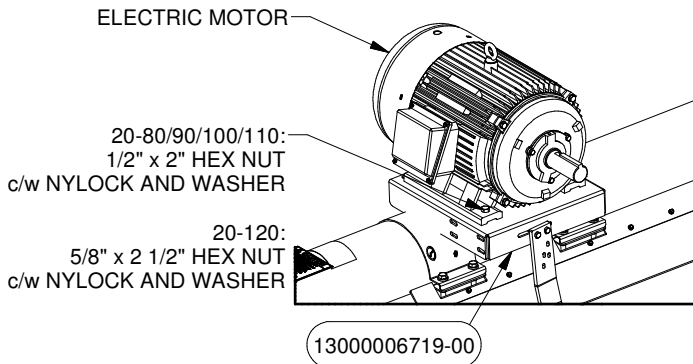

FIGURE 5
- Attach the Electric Motor to the Motor Mount PN# 6719 using Hex Bolts c/w Nylock Nuts and Flat Washers as shown in Figure 5.